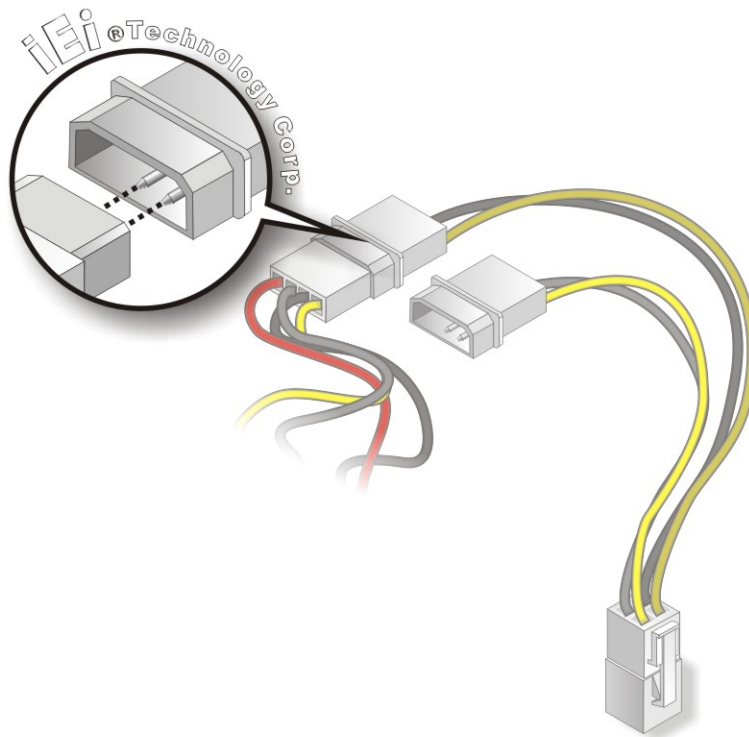

Figure 5-12: Connect Power Cable to Power Supply
Step 3: Connect Power Cable to Power Supply. Connect one of the 4-pin (1x4) Molex type power cable connectors to an AT power supply. See Figure 5-12.